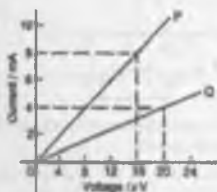

Figure 2.9
- Graphs of current against voltage for two resistors P and Q are shown in Fig. 2.9 Determine the value of each resistor. [2 m Ω , 5 m Ω]